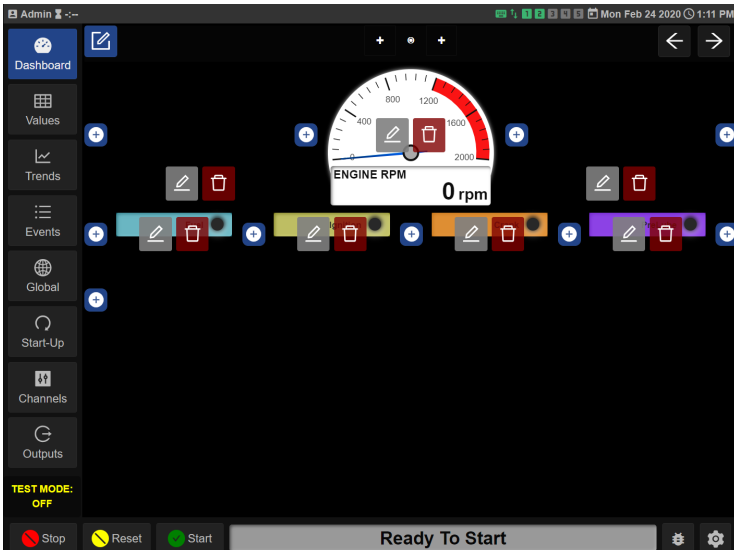

Figure 3.21 – Configure the Dashboard page
- A. Click on the Dashboard tab (Figure 3.21)